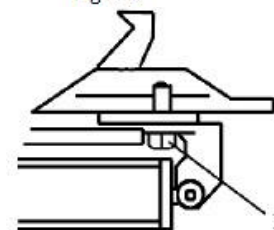

Fig 10
**Note: After the first 20 days of use, retighten the jaws with tightening screws (B) on the Turntable (Fig 10)**